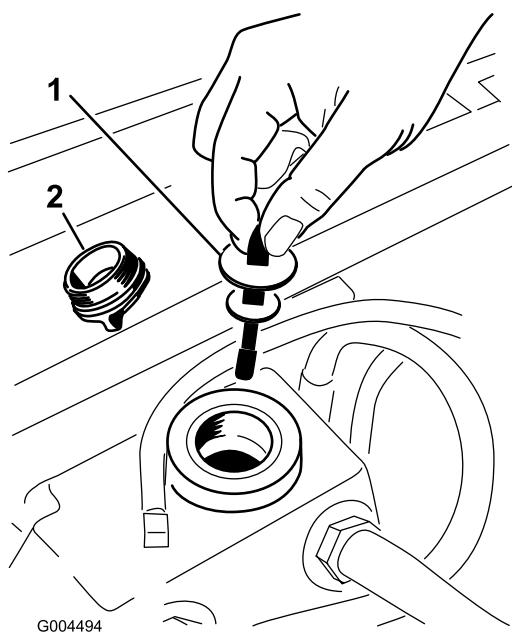

Figure 69
3. Remove the hydraulic fill cap (Figure 69) from filler neck.